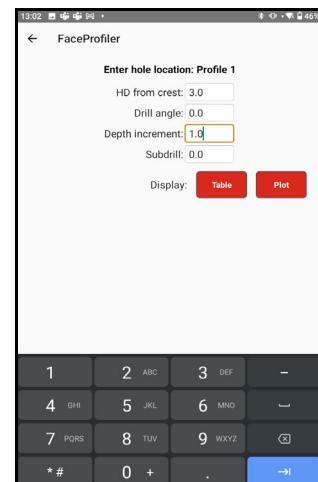

Figure 44
About Enter Hole Offset Parameters (Figure 44):
2. Tap the [Shoot Hole Location] option (Figure 47B). Face Profiler will display an entry screen for the drill hole parameters similar to Figure 44, Page 35.